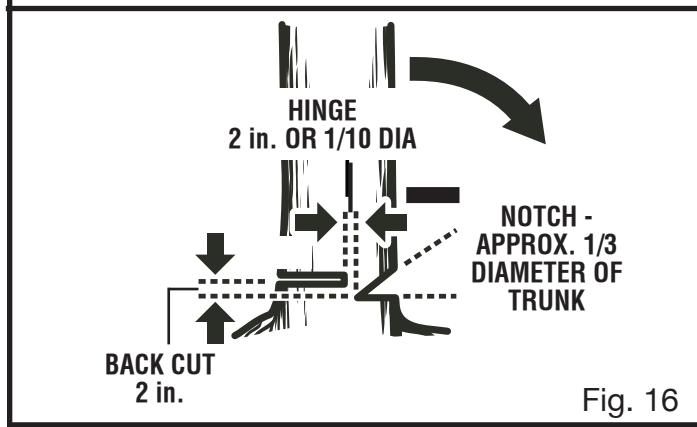

Fig. 16
■ **Notched Undercut.** Cut a notch about 1/3 the diameter of the tree, perpendicular to the direction of fall. Make the cuts of the notch so they intersect at a right angle to the line of fall. This notch should be cleaned out to leave a straight line. To keep the weight of the wood off the saw, always make the lower cut of the notch before the upper cut. See *Figure 16*.
■ **Felling Backcut.** The backcut is always made level and horizontal, and at a minimum of 2 in. above the horizontal cut of the notch. See *Figures 16 - 17*.
■ Never cut through to the notch. Always leave a band of wood between the notch and backcut (approximately 2 in. or 1/10 the diameter of the tree). This is called "hinge" or "hingewood." It controls the fall of the tree and prevents slipping or twisting or shoot-back of the tree off the stump. See *Figures 16 - 17*.